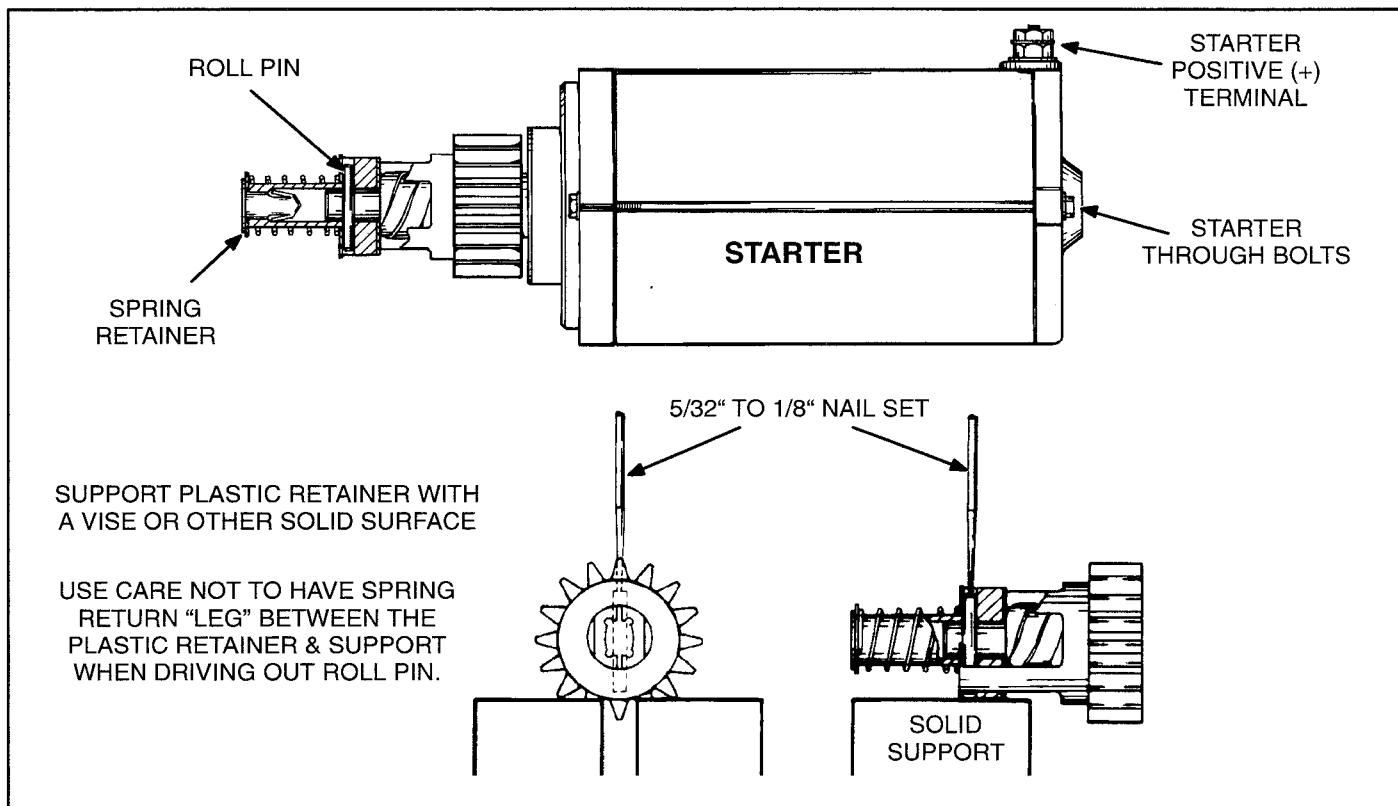

FIGURE 8-17. DRIVING ROLL PIN OUT OF STARTER ASSEMBLY
4. Use a 1/8 inch nail set to remove the roll pin in the armature shaft. Remove the return spring, gear and clutch assembly (Figure 8-17).